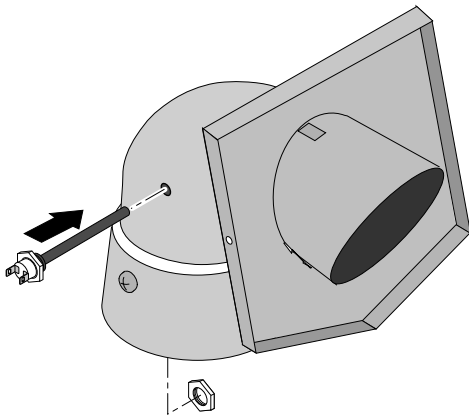

Figure 4-6: Apply 600°F RTV to sealing faces of probe and nut and install probe.
9. Apply UltraCopper[®] RTV Silicone (supplied) to the sealing faces of the Probe and its nut and install the Probe in the 3/8" hole in the Elbow (Figure 4-6).